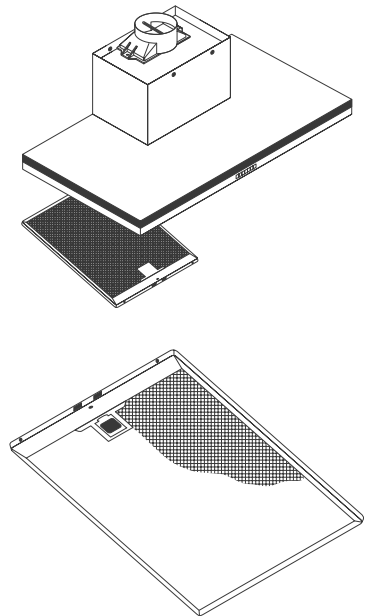

Fig.5 Grease filters
- Depending on use, and at least once a month, the grease filters should be disassembled (Fig.5) and cleaned in a dishwasher or with hot soapy water. If washed in a dishwasher they should be placed in an upright position to prevent food remains from falling on them.